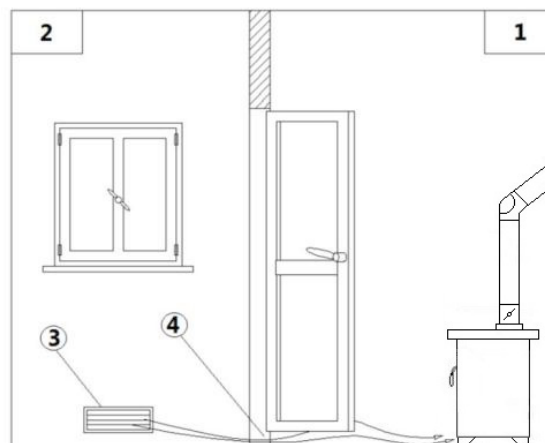
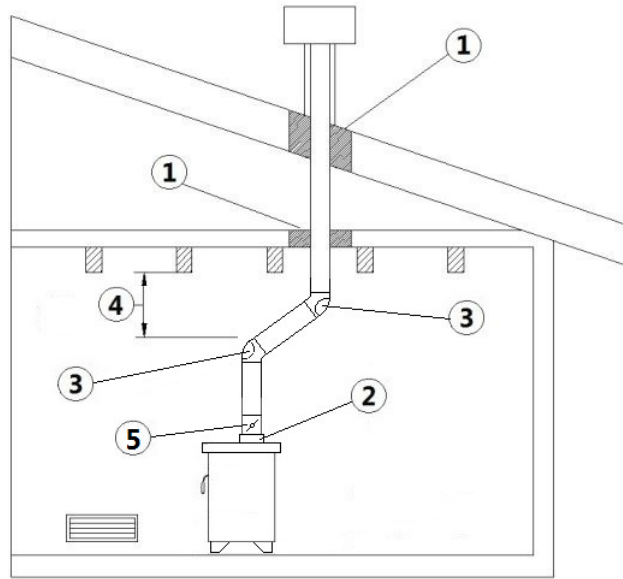

Fig. 6 - Indirect air inflow
Fig. 7 - Example 1
LEGEND	Fig. 6 page 8-Fig. 7 page 8
- The air inflow from outside to the inner occurs directly, through an opening on the external wall of the room (see Fig. 6 page 8); otherwise it occurs indirectly by air suction from rooms adjacent to the one to ventilate (see Fig. 7 page 8).